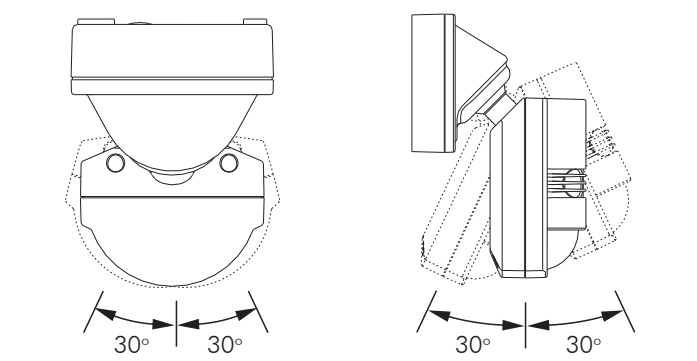

FIG.11
3.3.5 The detector head is adjustable 30° sideways and downwards (See FIG.11) respectively. Please refer to 4.4 adjustment of detector head to get the desired detection field.